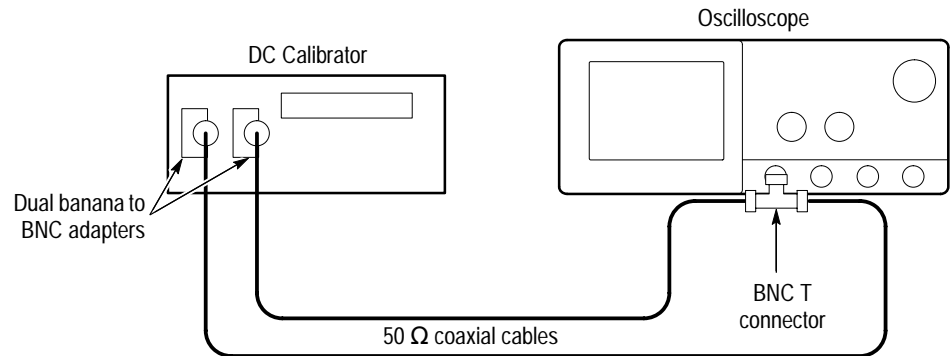

Figure 1–24: Subsequent test hookup
- Connect the Sense output of the generator through a second dual-banana connector followed by a 50  $\Omega$  precision coaxial cable to the other side of the BNC T connector. Now connect the BNC T connector to **CH 1**. See Figure 1–24.
- f. Press **CLEAR MENU** to remove the menus from the display. See Figure 1–25.